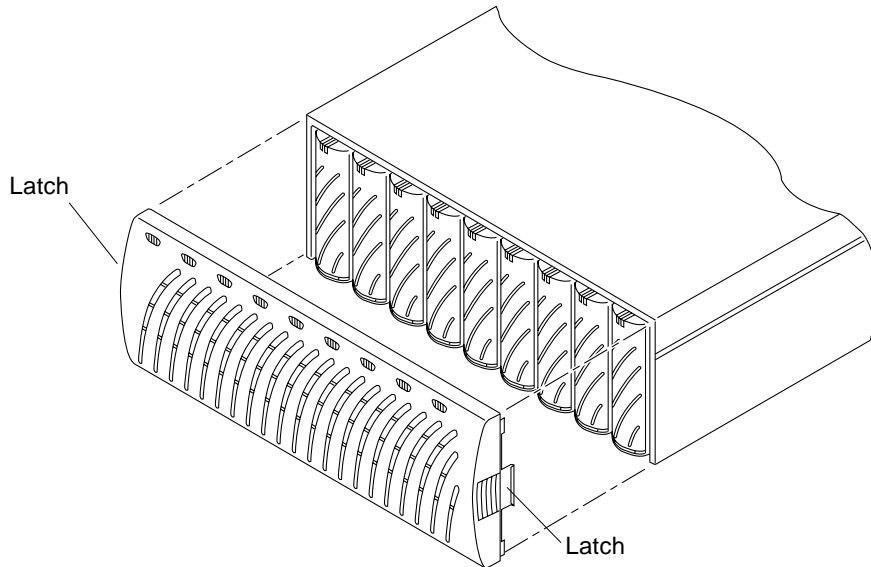

FIGURE 5-2 Removing the Front Panel
2. Remove the front panel by pressing in on the side latches and pulling the cover forward. See FIGURE 5-2.